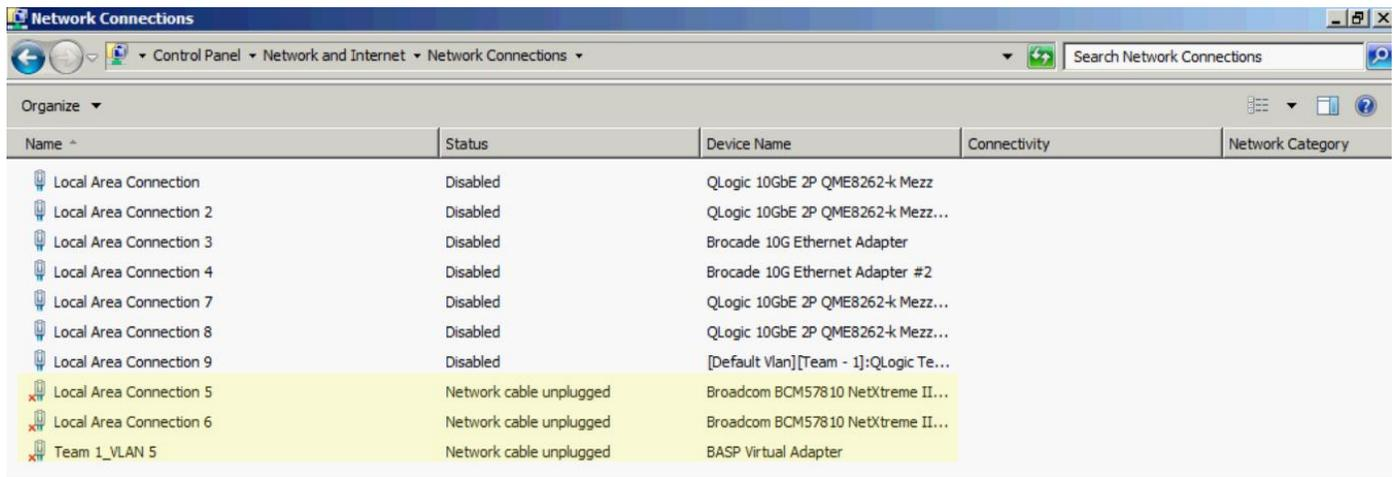

Figure 26 Viewing the NIC team and network connect in Windows Server 2008 R2 Enterprise
20. Go to **Control Panel > Network and Internet > Network and Sharing Center > Change adapter settings**. The Network Connections are displayed. The two Broadcom 57810 CNA ports being utilized in this setup and the virtual adapter from the NIC teaming are highlighted in Figure 26.